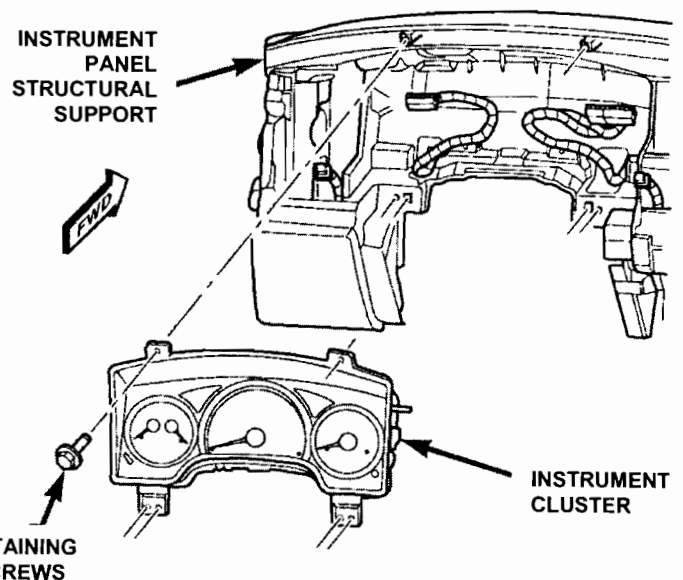
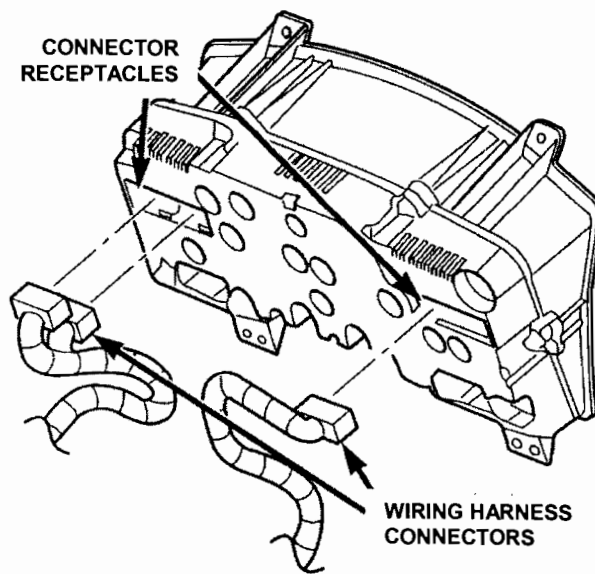

Figure 2
Figure 3
10. Remove the four retaining screws that secure the instrument cluster to the instrument panel structural support (Figure 2).
11. Pull the instrument cluster away from the instrument panel to access and disconnect the instrument panel wire harness connectors from the instrument cluster housing (Figure 3).
15. Position the instrument cluster close enough to the instrument panel to connect the instrument cluster wire harness connectors to the connector receptacles on the back of the cluster (Figure 3). Position the instrument cluster into the instrument panel (Figure 2).